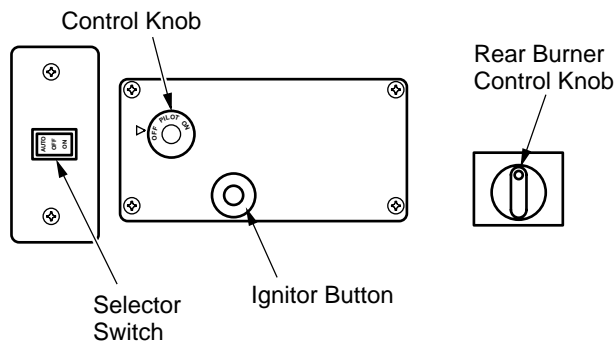

Figure 32 - Control Knobs and Ignitor Button Locations (Shown as Supplied, No Remote Control Operation)
5. Wait five (5) minutes to clear out any gas. Then smell for gas, including near the floor. If you smell gas, **STOP!** Follow "B" in the safety information, column 1. If you don't smell gas, go to the next step.
6. Press in and turn control knob counterclockwise  to the PILOT position. Press in control knob for five (5) seconds (see Figure 32, page 20).